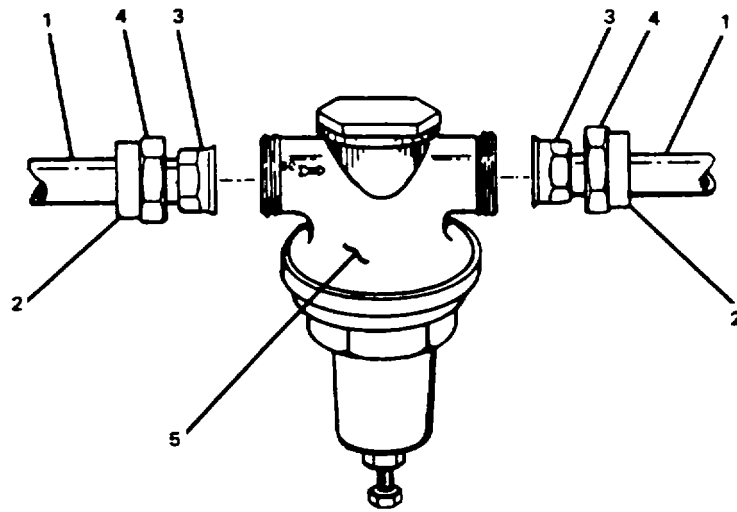

Figure 2-97. Replace Reducing Valve, 1/2 to 2-Inch.
- c. Separate valve (5, Figure 2-97) from inlet/outlet piping (1) by holding tailpiece (3) of union nut (2) and turning union collar (4) counterclockwise.
- d. Slide union collar (4) away from valve.
- e. Remove valve (3).